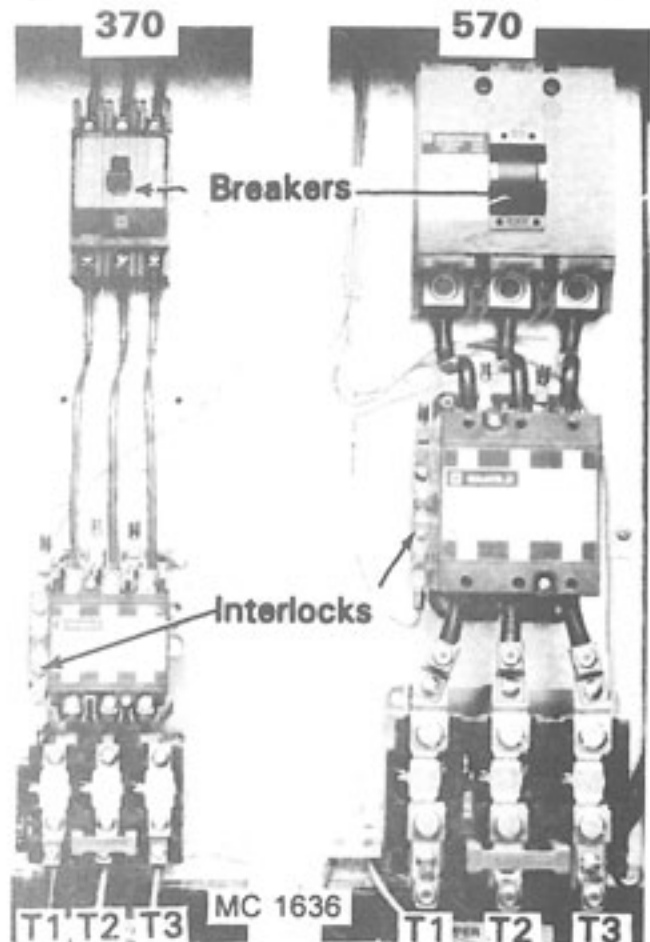

Figure 10 - Fan Magnetic Starters-3 Phase, 230V
- A. **Three phase motors** - Move the wire from terminal T1 to T3 and T3 to T1 on the fan magnetic starter in the lower control cabinet. See Figure 10.